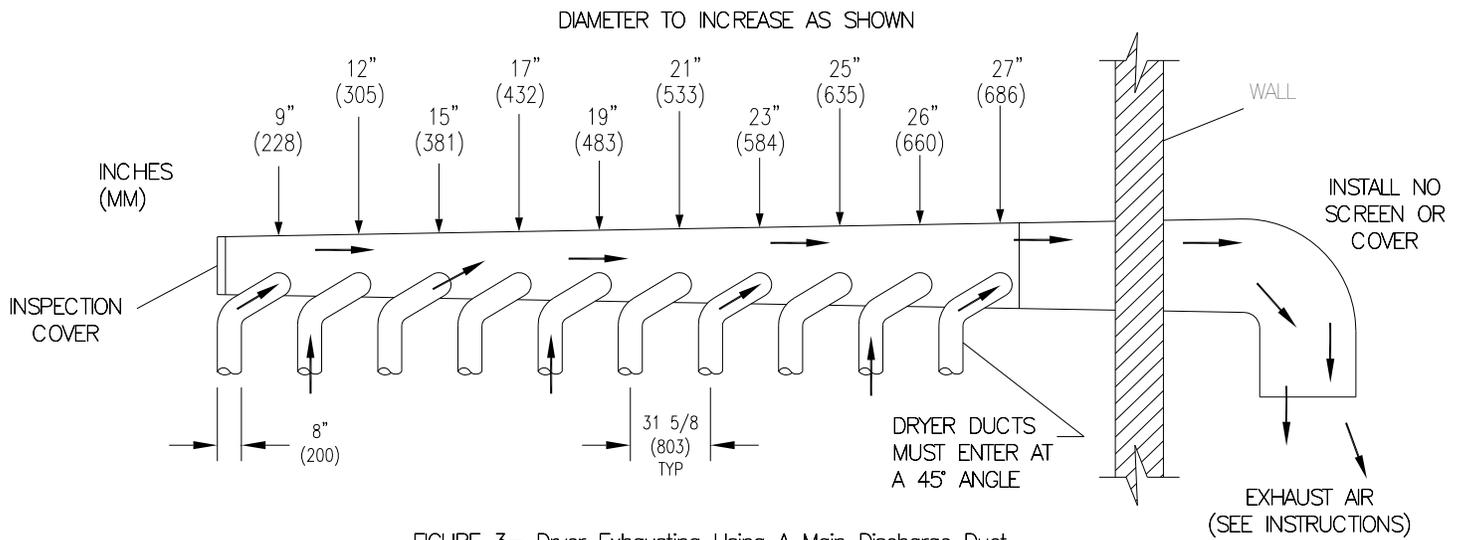

FIGURE 3— Dryer Exhausting Using A Main Discharge Duct.
6. EXHAUST INSTALLATION. (Refer to Figure 3 at the end of section 6.) Exhausting of the dryer(s) should be planned and constructed so that no air restrictions occur. Any restriction due to pipe size or type of installation can cause slow drying time, excessive heat, and lint in the room.
Installation of several dryers, where a main discharge duct is necessary, will need the following considerations for installation (see Figure 3). Individual ducts from the dryers into the main discharge duct should be at a 45-degree angle in the direction of discharge airflow.
NOTE: Never install the individual ducts at a right angle into the main discharge duct. The individual ducts from the dryers can enter at the sides or bottom of the main discharge duct. Figure 3 indicates the various round main duct diameters to use with the individual dryer ducts. The main duct can be rectangular or round, provided adequate airflow is maintained. For each individual dryer, the total exhausting (main discharge duct plus duct outlet from the dryer) should not exceed the equivalent of 20' (6 m) and two elbows. The diameter of the main discharge duct, at the last dryer, must be maintained to exhaust end.